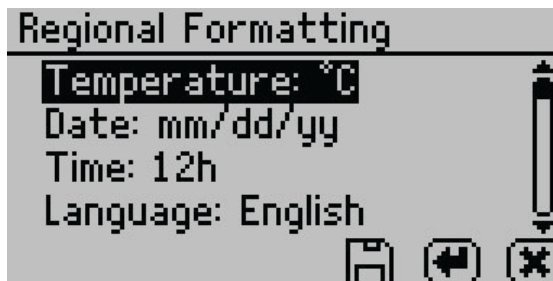

Figure 45 Regional Formatting option
- **Regional Formatting.** Select to configure how the AQUALAB 4 displays information. Choose the temperature scale (Celsius or Fahrenheit), the date display (mm/dd/yy or dd/mm/yy), the hour format (12h or 24h), and the language (Figure 45).